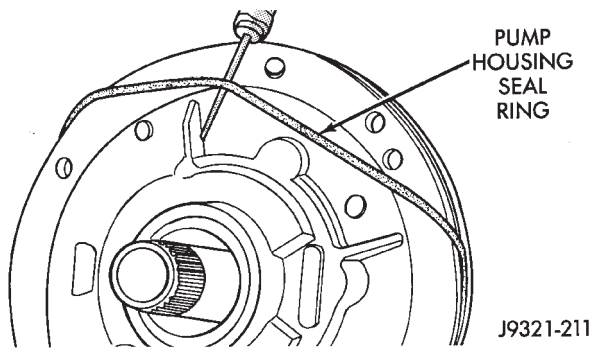
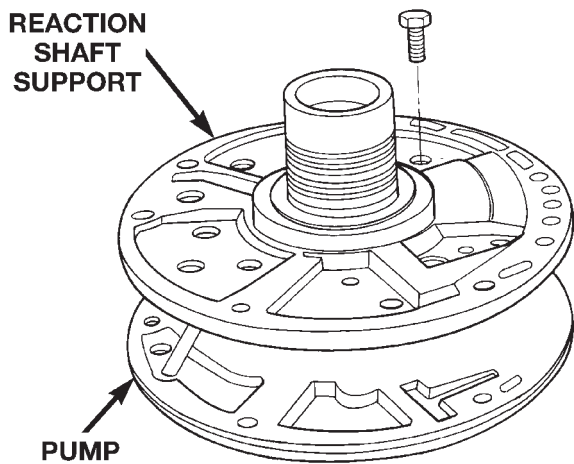

Fig. 121 Removing Pump Seal Ring
Fig. 122 Pump Support Bolts
- (1) Remove seal ring from housing and reaction shaft support (Fig. 121).
- (2) Mark pump housing and support assembly for alignment reference.
- (3) Remove bolts attaching pump body to support (Fig. 122).